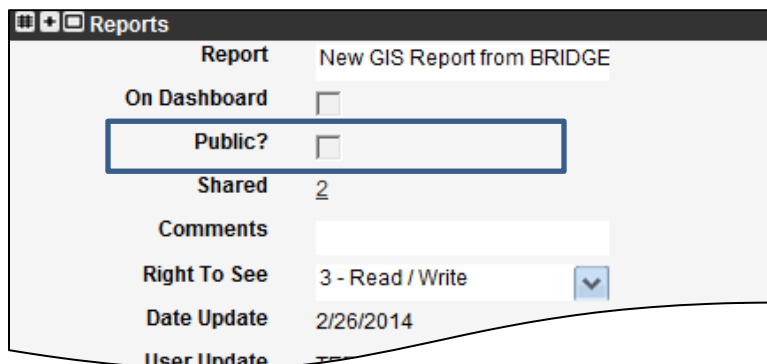

Figure 3-5. Report Sharing Status Example
**TIP!** The report details now show the **Public** status (Figure 3-5) as a checkmark, if made globally available to the agency, or appears as a blank checkbox if private.